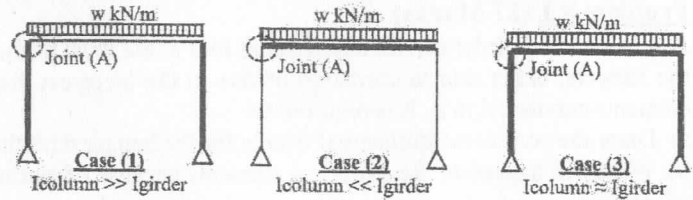

Fig. 4
(c) For each of the RC structures shown in Figure 4, it is required to **draw** shape of the B.M.D under the given uniform load. **Sketch** shape of the longitudinal reinforcement. **Classify** type of the joint (A). **Sketch** shape of the transversal reinforcement at joint (A). (3Marks)